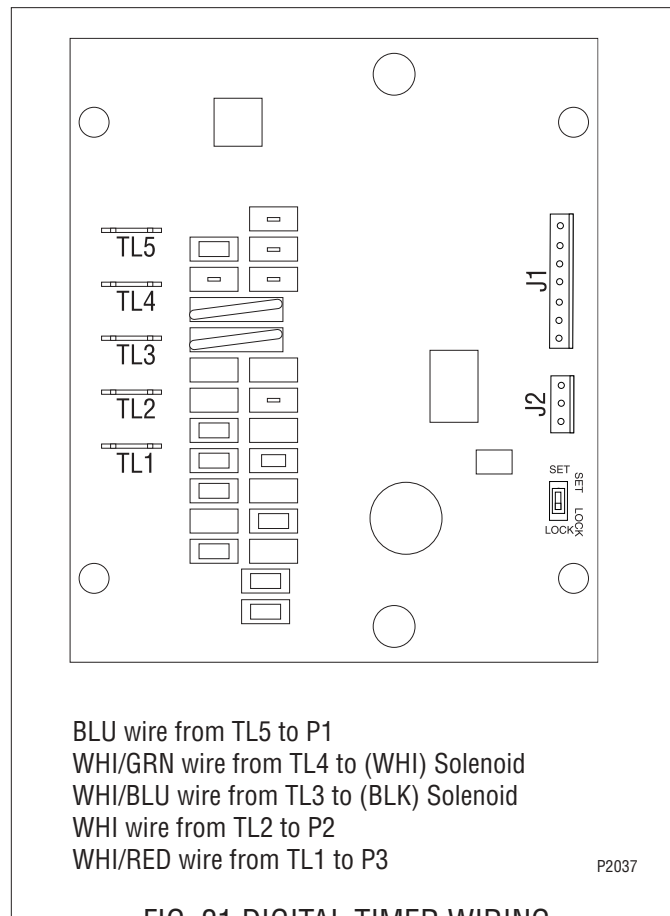

FIG. 21 DIGITAL TIMER WIRING
4. Refer to Fig. 21 when reconnecting the wires.
4. Attach all wires to the replacement timer board prior to installation to the component mounting bracket. Refer to FIG. 21 when reconnecting the wires.